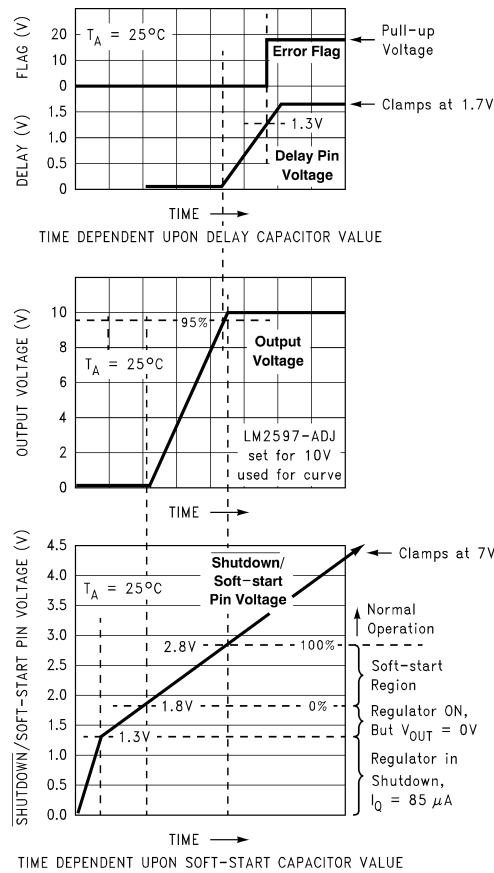
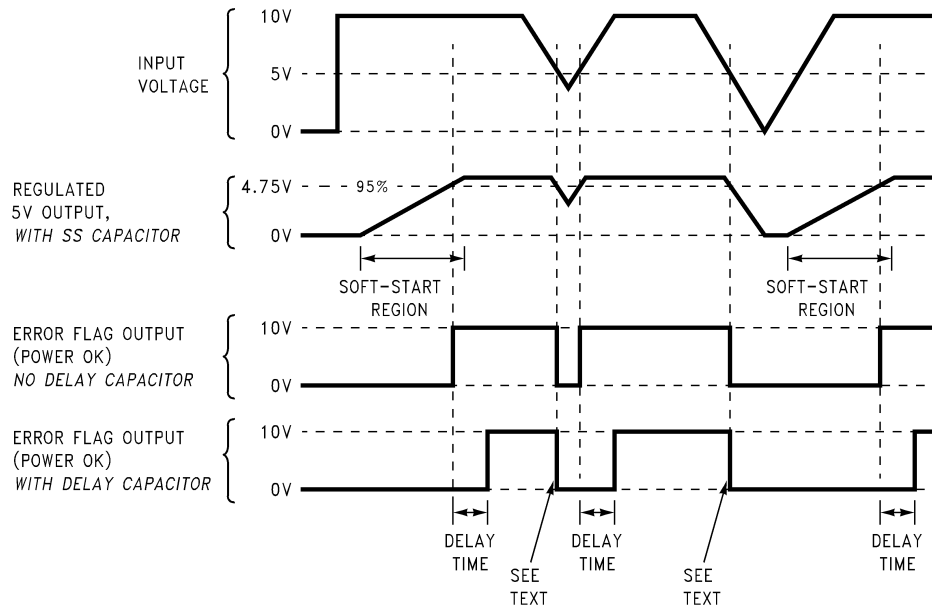

Figure 31. Soft-Start, Delay, Error, and Output
Figure 33. Timing Diagram for 5-V Output
A capacitor on this pin provides the regulator with a soft-start feature (slow start-up). When the DC input voltage is first applied to the regulator, or when the Shutdown/Soft-start pin is allowed to go high, a constant current (approximately 5  $\mu$ A) begins charging this capacitor). As the capacitor voltage rises, the regulator goes through four operating regions (see the bottom curve in Figure 31).
3. Soft-start Region – When the  $\overline{SD/SS}$  pin voltage is between 1.8 V and 2.8 V (at 25°C), the regulator is in a soft-start condition. The switch (Pin 8) duty cycle initially starts out very low, with narrow pulses and gradually get wider as the capacitor  $\overline{SD/SS}$  pin ramps up towards 2.8 V. As the duty cycle increases, the output voltage also increases at a controlled ramp up. See the center curve in Figure 31. The input supply current requirement also starts out at a low level for the narrow pulses and ramp up in a controlled manner. This is a very useful feature in some switcher topologies that require large start-up currents (such as the inverting configuration) which can load down the input power supply.
The lower curve shown in Figure 31 shows the soft-start region from 0% to 100%. This is not the duty cycle percentage, but the output voltage percentage. Also, the soft-start voltage range has a negative temperature coefficient associated with it. See the soft-start curve in Electrical Characteristics.
Provides delay for the error flag output. See the upper curve in Figure 31, and also refer to timing diagrams in Figure 33. A capacitor on this pin provides a time delay between the time the regulated output voltage (when it is increasing in value) reaches 95% of the nominal output voltage, and the time the error flag output goes high. A 3-μA constant current from the delay pin charges the delay capacitor resulting in a voltage ramp. When this voltage reaches a threshold of approximately 1.3 V, the open collector error flag output (or power OK) goes high. This signal can be used to indicate that the regulated output has reached the correct voltage and has stabilized.